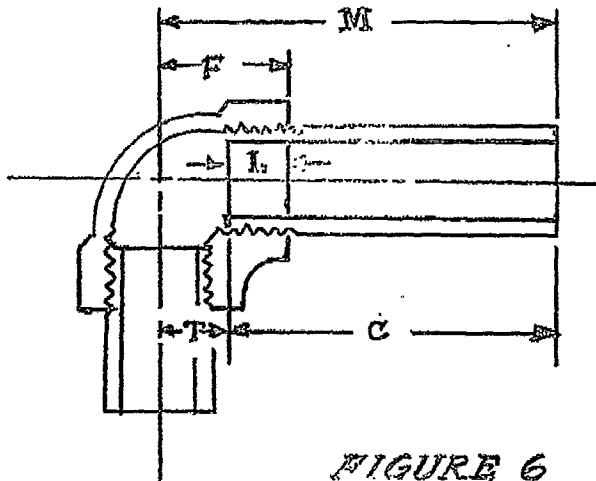

FIGURE 6
(1) In Figure 6, showing a screwed fitting, "F" represents the fitting dimension and "M" the measurement.